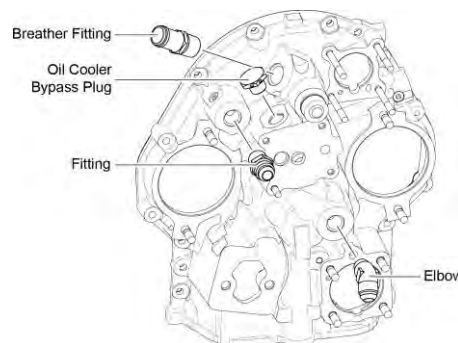

Figure 8
- C. Examine plugs and fittings (Figures 8 and 9) for damage. Replace any damaged plug or fitting.
- D. Install fittings (Figure 8) in the accessory housing.